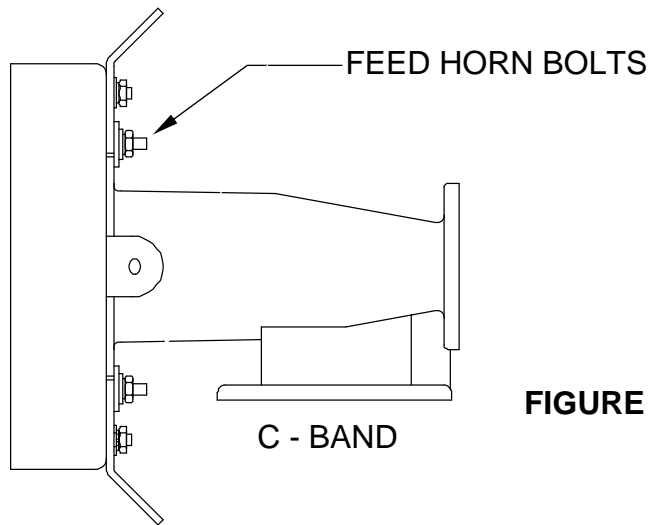

FIGURE 9.
2. **POLARITY ADJUSTMENT** - On C-band and Ku-band feed systems, polarity is adjusted by loosening the feed horn bolts (see figures 9 and 10) and rotating the OMT or feed horn 90 degrees, then retighten the bolts.